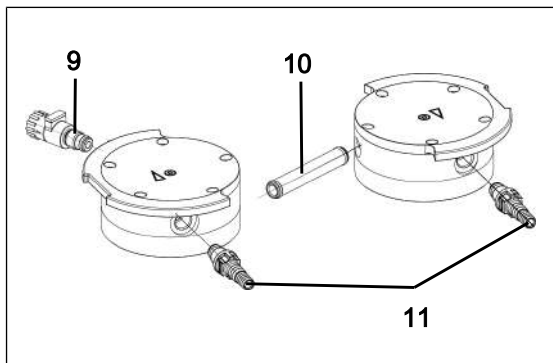

Fig.10: Changing O-rings
2. Pull the connection tube (10/ Fig. 10) out of the head plate (3).
3. Replace the two O-rings on the connection tube (**10**/Fig. 10).
6. Unscrew the gas ballast (**9**/Fig. 10) from the head plate (**3**).
7. Replace the O-ring on the gas ballast (**9**/Fig. 10).
8. Screw the gas ballast (**9**/Fig. 10) into the corresponding head plate (**3**) as far as it will go. Then turn it back again until the surface is oriented upwards.
9. Unscrew the hose connections (**11**/Fig. 10) from the head plate (**3**) using the tool supplied.
10. Replace the O-rings on the hose connections (**11**/Fig. 10).
11. Screw the hose connections (**11**/Fig. 10) into the head plate (**3**) hand-tight using the tool supplied.
7. Insert the connection tube (**10**/Fig. 10) into the head plate (**3**).